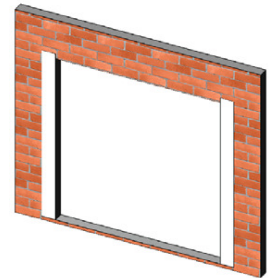

Figure 22:
2. After glazing, apply a continuous bead of sealant to the frame and glass (Figure 22).
2. At each jamb, embed the flashing paper into the sealant onto mounting flange and fasten into place. The flashing paper should be cut sufficiently long enough to extend at least 3 in. past the weep-screed flashing and at least 6 inches above the head of the product (Figure 22).